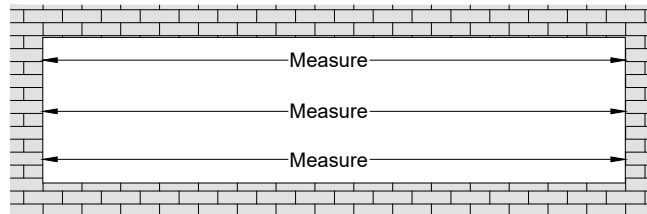

Fig.18.2
- B. Measure the width of the opening (Rough Opening) at the top, middle, and bottom. Select the smallest of these dimensions and subtract the left and right caulk joint width per approved shop drawing (1/2" minimum caulk joint at jambs). **SEE Fig.18.2**